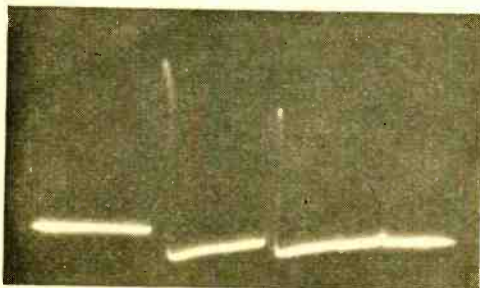

Figure 1. The oscilloscope pattern showing the direct (ground), F and two times F pulses. Linear sweep was used. Height 306 km.
Figure 1 shows an oscillogram of the pulse output from the receiver in use at the station. The transmitter being received had 200 watts peak pulse output and was located about 200 yards from the receiver. The transmitted pulse length was 100 microseconds. In order to minimize the direct signal from the transmitter with respect to the reflected signal from the ionosphere, the transmitting and receiving antennas were both horizontal and turned end to end. Obviously the antenna systems should have maximum directivity straight up when a signal is to be reflected from the ionosphere, and the direct (ground) wave should be reduced as much as possible. A vertical antenna *must not* be used.
Figure 1 also shows F-region reflections. The first reflection is the first ionosphere pulse returned from a height,  $h_F = 306$  kilometers. The second reflection is produced by the pulse wave reflected twice from the same (F) region. It traveled from the earth to the F region, back to the earth, where it was reflected back to the F region again, and then back to the receiver. This made two complete round trips to the F region. The second reflection, therefore, appears as though it came from a region of height equal to twice  $h_F$  (the height of the F region) or 612 km.
Any ordinary oscilloscope with or without a linear sweep circuit may be used. A one-inch tube is satisfactory, but it will be found that at least a two-inch screen gives much greater definition. Figure 1 was photographed on a standard three-inch tube using direct connection to the vertical deflection plates and amplified 60-cycle synchronized linear horizontal sweep.
Figure 1. Perspective view of remodeled 32-F r.f. unit, showing revised tube and coil layout. The sawed-off tube shield to the left of the crystal houses the 20-meter 53 doubler coil, which is permanently left in the circuit though used only for 10-meter operation of the final amplifier.